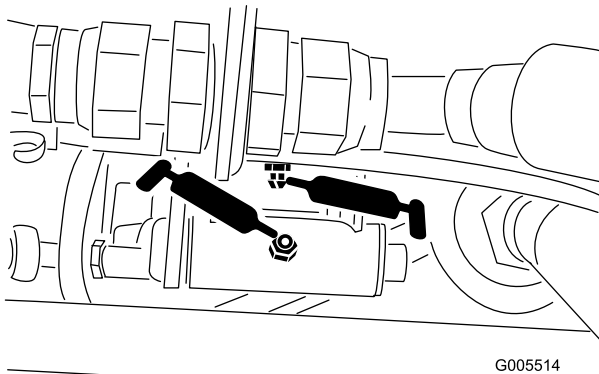
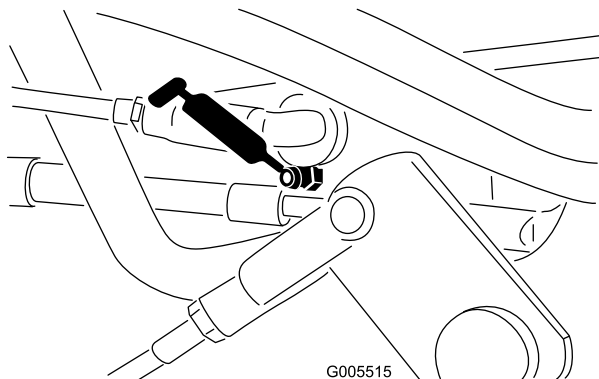

Figure 44
Figure 45
- Speed selector linkage (Figure 44 & Figure 45)